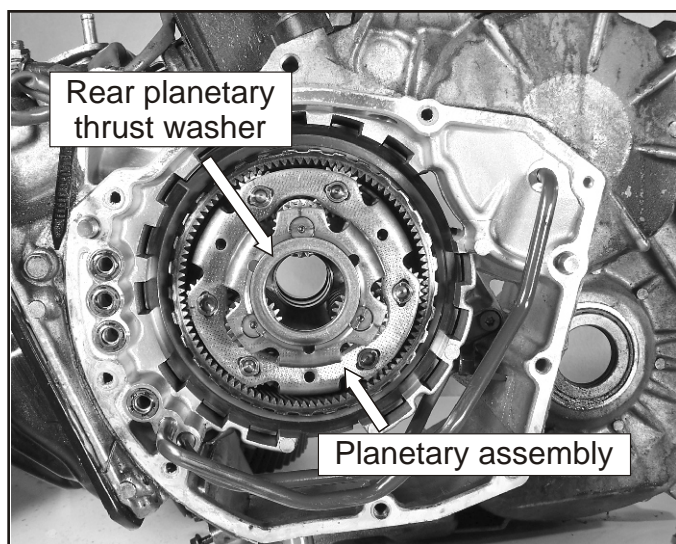

Figure 243
- 171. Install the planetary assembly into the rear ring gear as shown in Figure 243. Install the rear planetary thrust washer.